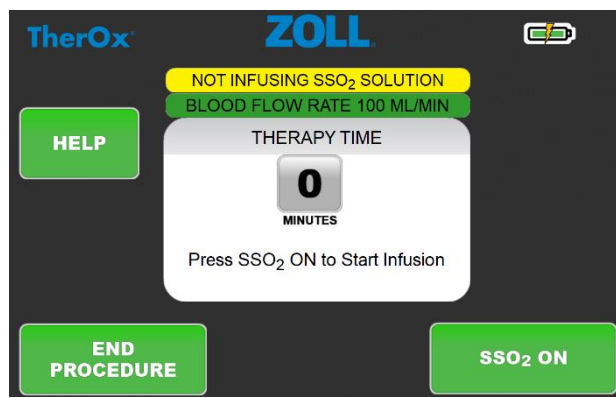

Figure 17. Screen Display for Entering SSO₂ ON
1. At completion of Prime, the following screen will appear (**Figure 17**):